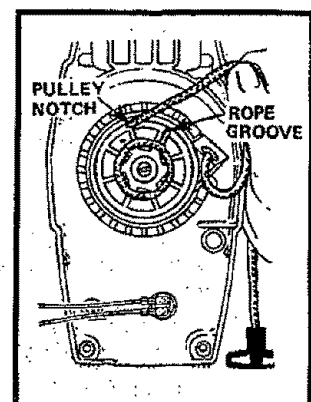

Figure 21
10. If the starter rope is not broken, release the spring tension by pulling about 12 inches of rope from the pulley and catch the rope in the notch as shown. Figure 21.
19. Hold the 12 inch slack in the rope and catch rope in pulley notch. Figure 21.